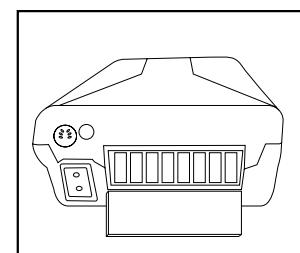

Figure 11
1. The air-inlet filter should be checked daily. The filter is located in the rear of the unit **Figure 11**.